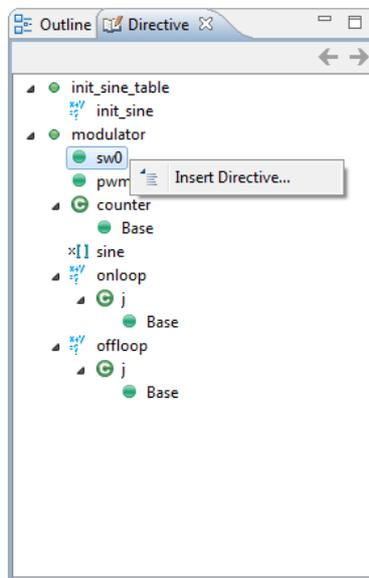

Figure 2.39: Insert Directive option
Step 1. To apply a directive, select an object in the **Directive** tab (in our case, **sw0**), right-click on it and choose **Insert Directive...** option to open the **Vivado HLS Directives Editor** dialog box, see Figure 2.39.